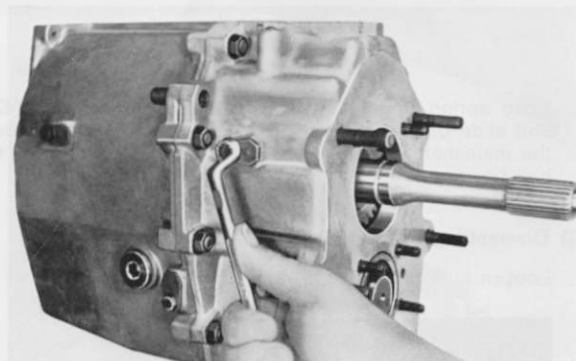

Fig. 12
5. Loosen set screws (602) on the pivot pins (604 and 610) (Fig. 12) and pull pivot pins from the housing.